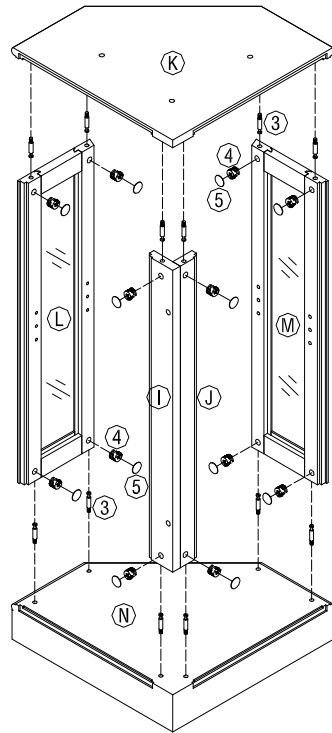

Figure 7
TIGHTEN CAM-BOLTS (3) INTO PREDRILLED HOLES ON UPSIDE OF BASE (N) AND FIT INTO CORRESPONDING HOLES ON BOTTOM EDGES OF PARTS (I,J,L,M). INSERT CAM-LOCKS(4) INTO BIG HOLE ON PARTS(I,J,L,M) WITH SLOT FOR SCREWDRIVER FACING OUTWARD. ROTATE CAM-LOCKS (4) CLOCKWISE TO SECURE CAM-BOLTS(3). PUSH COVERS (5) INTO CAM-LOCKS(4). ASSEMBLE LOWER SHELF(K) IN SAME MANNER. AS SHOWN IN FIGURE 7.